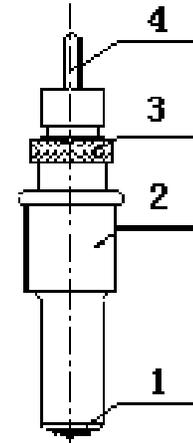

Figure 2-3
- ② Install the blade as (Figure 2-3).